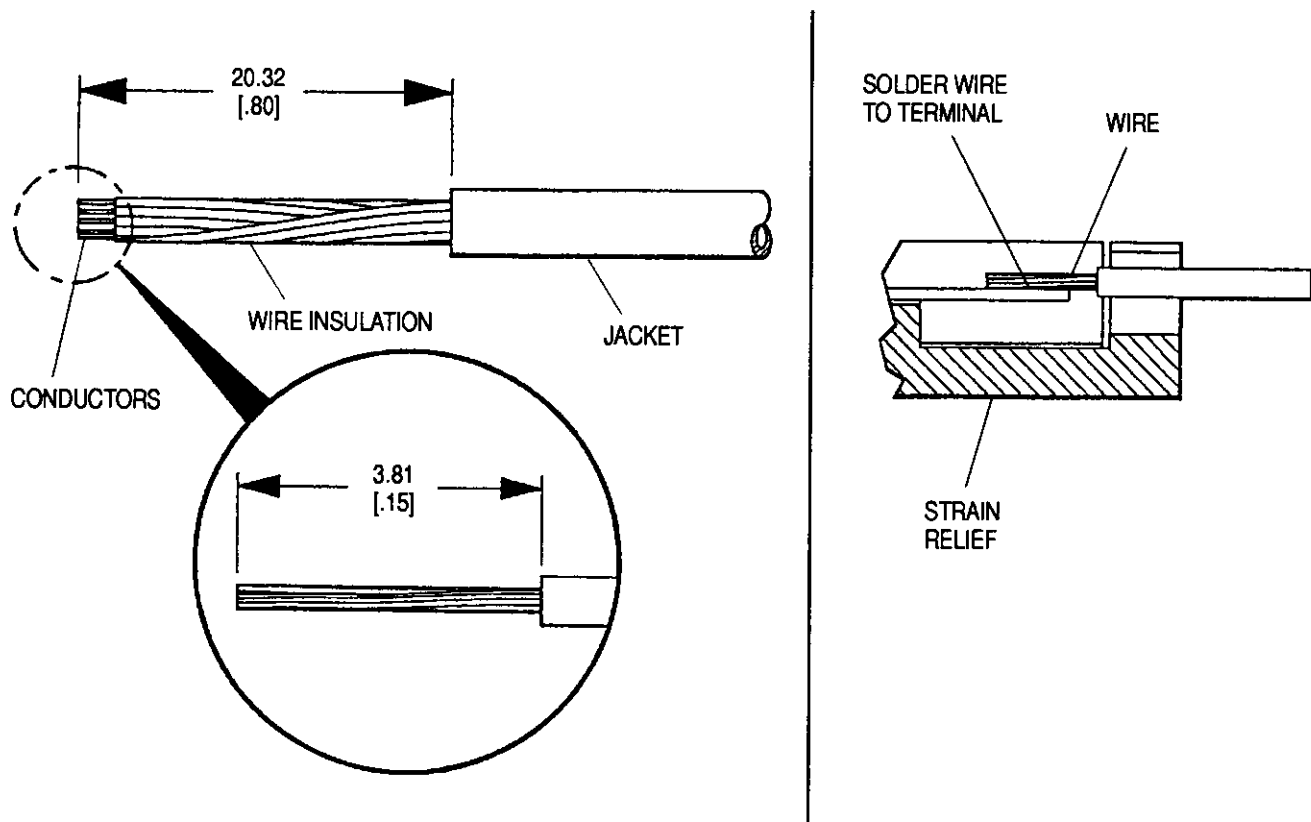

Figure 2
1. Strip 20.3 [0.80] of jacket from cable (see Figure 2).
Dress conductors into the strain relief on connector. Lay stripped section on terminal. Insulation should be through strain relief, but not touching terminals. See Figure 2.